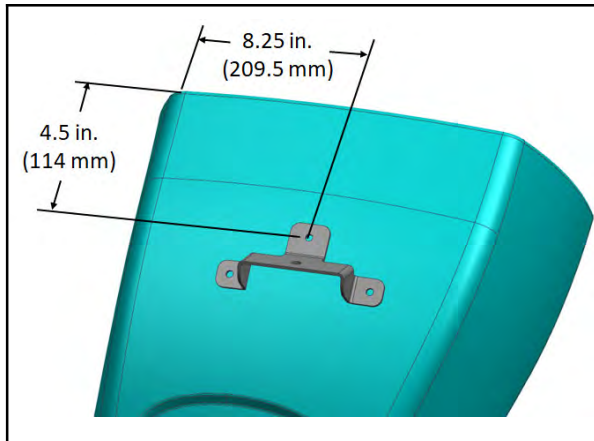

FIG. 2
1. Position the front cover spotlight mounting bracket (4) onto the front cover and mark the locations for the three front cover spotlight mounting bracket mounting holes onto the front cover. (Fig. 2)
2. Drill a 0.375 in. (9.5 mm) hole completely through each hole marked on the front shroud in the previous step. Drill completely through both sides of the shroud. **Do Not** drill into any parts/components located behind the front shroud. (Fig. 2)